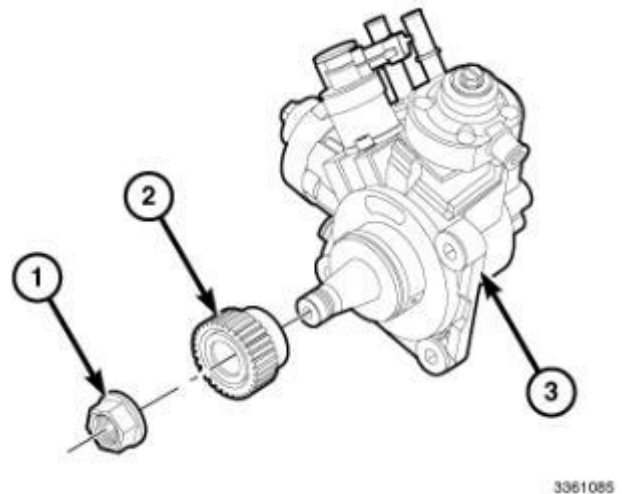

Figure 137 – O-ring Seal
- 76. Install the gear (2) and nut (1) onto the fuel injection pump (3) and tighten the nut (1) finger tight (Figure 137).